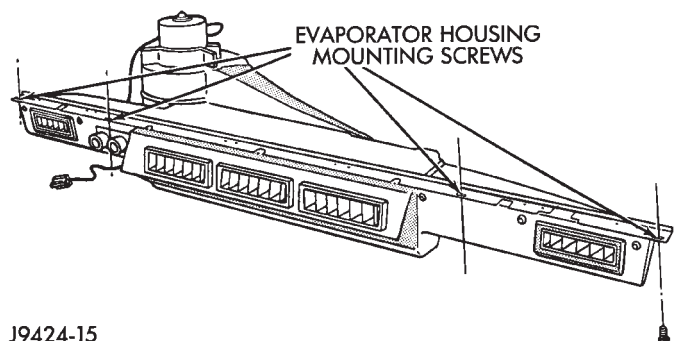

Fig. 8 Evaporator Housing
(1) Discharge the system. **Discharge the system slowly to prevent loss of compressor oil.**
(2) Disconnect the inlet (suction) hose.
(3) Disconnect the receiver-drier-to-evaporator hoses.
(4) Remove the hose clamps and dash grommet retaining screws.
(5) Remove the evaporator housing-to-instrument panel attaching screws and the housing mounting bracket screw (Fig. 8).